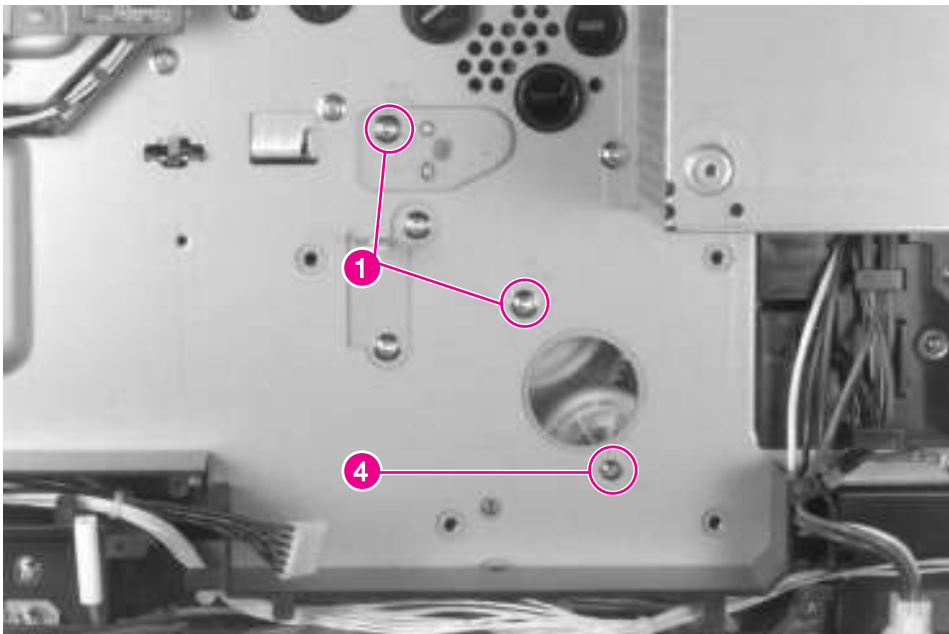

Figure 6-36 Main Gear Assembly (1 of 3)
- 2 Remove 2 screws (figure 6-36 on page 202, callout 1).
- 4 Make sure that the locating pins are properly aligned and that the gear assembly fits tightly against the chassis before replacing the screws (figure 6-36, callout 4).